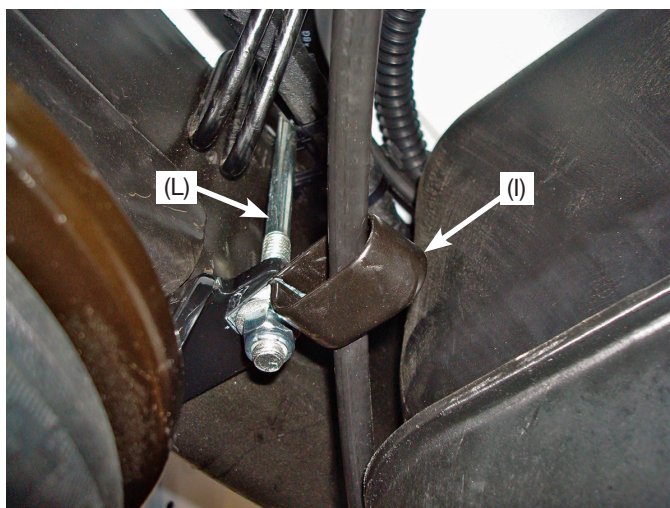

Fig. 10
14. Insert the emergency brake cable into the large frame clamp (I) (fig. 10).
15. Install the large frame clamp onto the U-bolt (L), inside the frame on the left (driver's) side with the clamp pointing inboard toward the center of the vehicle (fig. 10).
16. Torque the U-bolt as specified in step 9 if using the U-bolt to mount the upper bracket (fig. 10). If the truck has a fifth-wheel bracket, use the center hole instead of the U-bolt to mount the upper bracket. Attach the large frame clamp (I) using the 3/8" bolt (V), 3/8" flat washer (S) and nylon lock nut (R) supplied. Tighten to 10 lb.-ft. (14Nm).